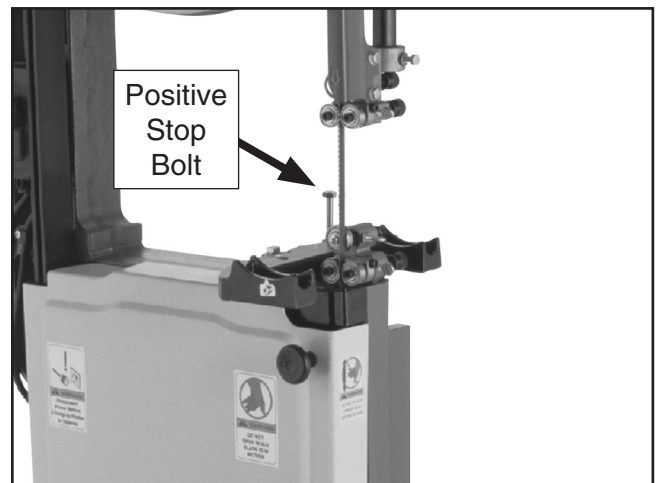

Figure 8. Shows positive stop bolt installed.
8. Thread the M8-1.25 x 80 hex bolt (a.k.a. positive stop bolt) into the trunnion base so it is installed similar to **Figure 8**.